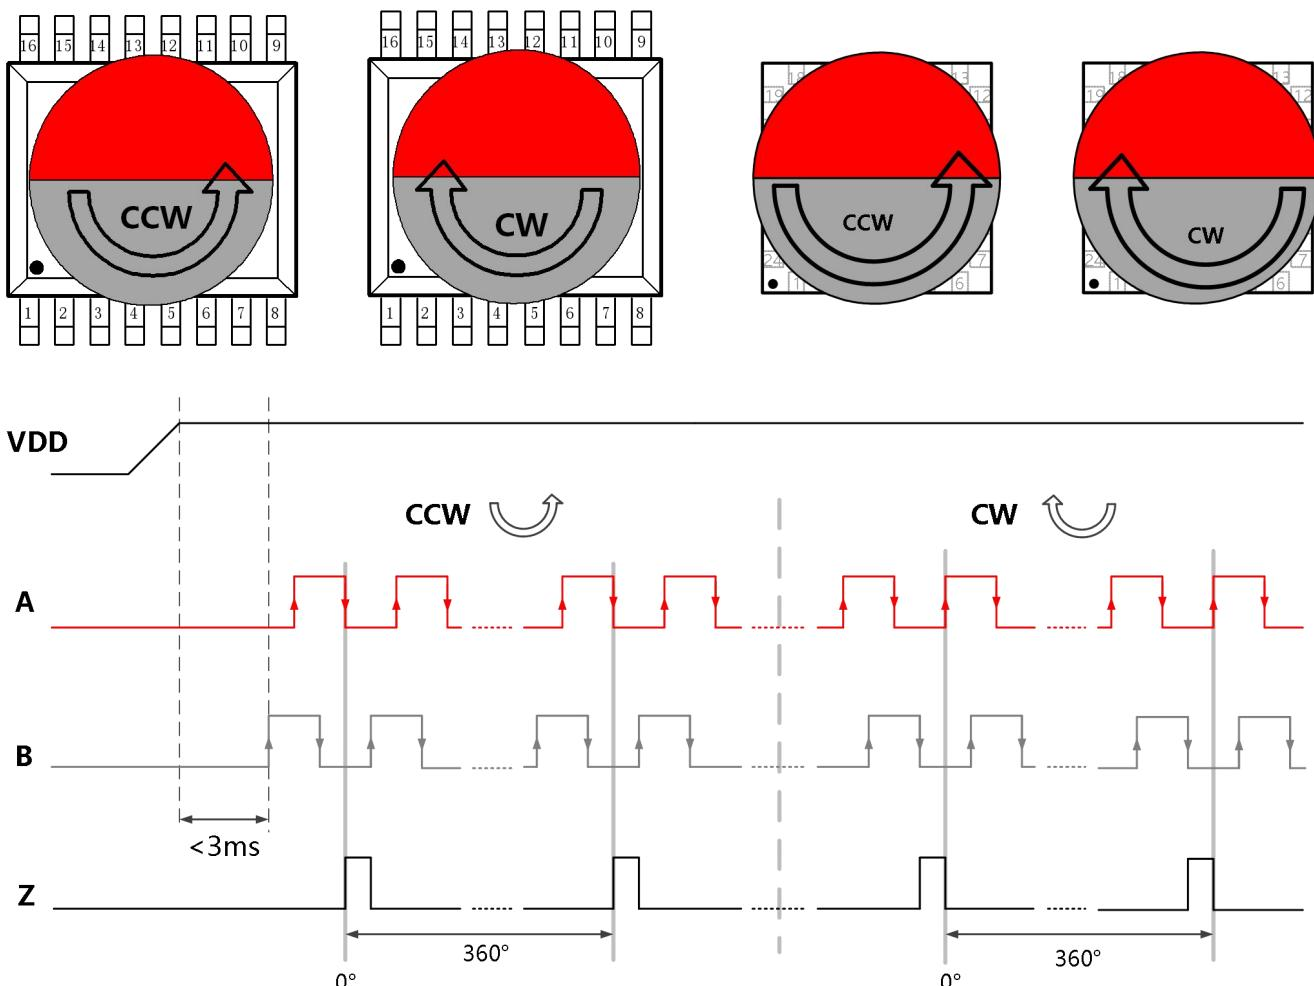

Figure 8: ABZ output with VDD power on
As shown in Figure 8, when the magnet rotates counter-clock-wise (CCW), the rising edge of output B leads output A by 1/4 cycle, when the magnet rotates clock-wise (CW), the rising edge of output A leads output B by 1/4 cycle (or 1 LSB). Output Z indicates the zero position of the magnet. After chip power-on, the ABZ output is blocked for 3ms to guarantee proper output.